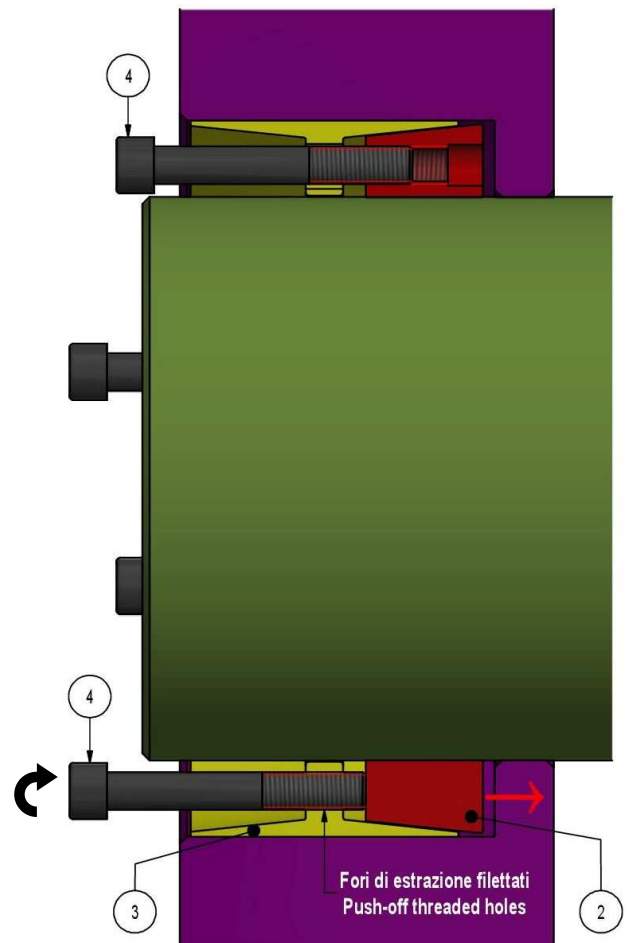

Fig. 5. Release of rear thrust ring.
3. Transfer some screws into all push-off threaded holes in the outer ring. **Progressively tighten these screws in a crosswise pattern, using approx. ¼ turns for several passes** until the rear thrust ring is released (fig. 5). Start with a screw located at 90° approx. respect to slit; screws adjacent to slit shall be tightened in a row.